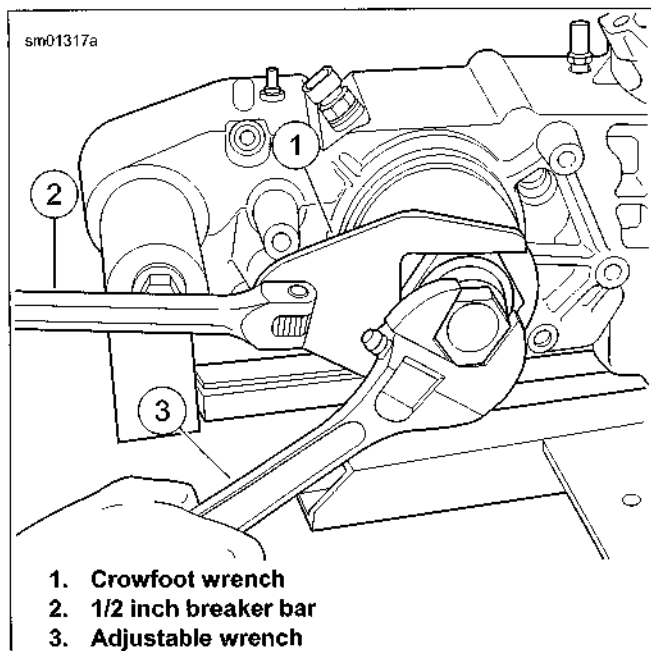

Figure 5-59. Press Seal Into Crankcase
8. See Figure 5-59. Place crow's foot wrench (1) with 1/2 inch drive breaker bar (2) on large nut. Place an adjustable wrench (3) on flats of hex head cast into end of adapter.